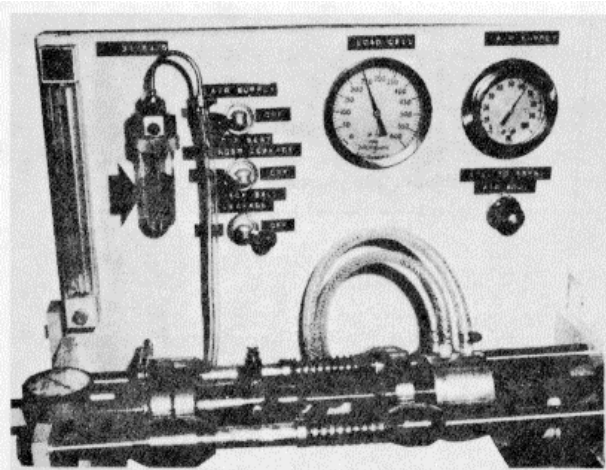

Figure 16H-43. Checking the Cup to Plunger Seating
and watch the flowmeter for the highest reading, Figure 16H-44.
4. Turn the air supply valve ON and look for bubbles in the bubble checker. If no bubbles appear within 10 seconds, or if the time between bubbles is more than 5 seconds, the cup to plunger seating is acceptable, Figure 16H-43. If unacceptable, retorque the cup.